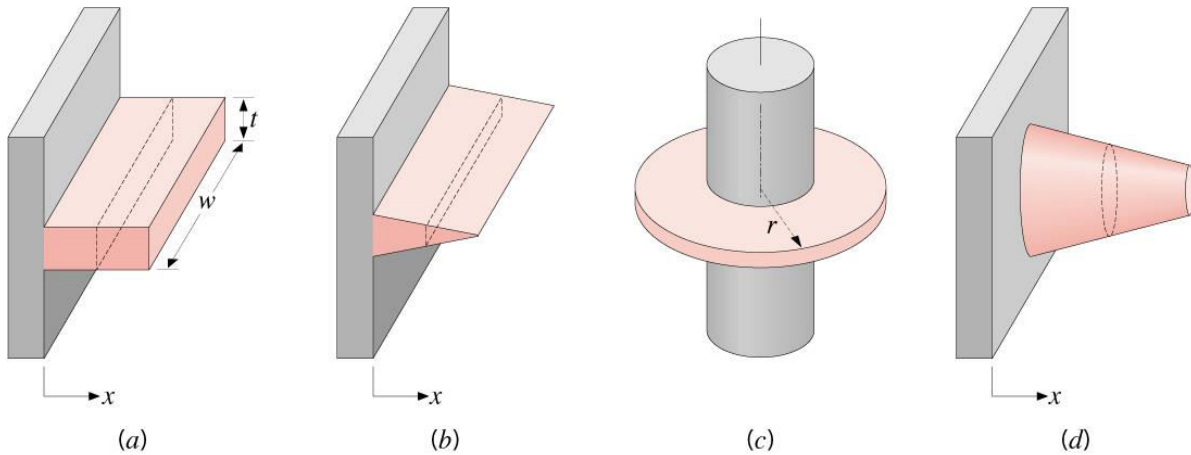

Figure 4
3. **Spine or pin fin:** It is an extended surface of cylindrical or conical shape as shown in Figure 4.